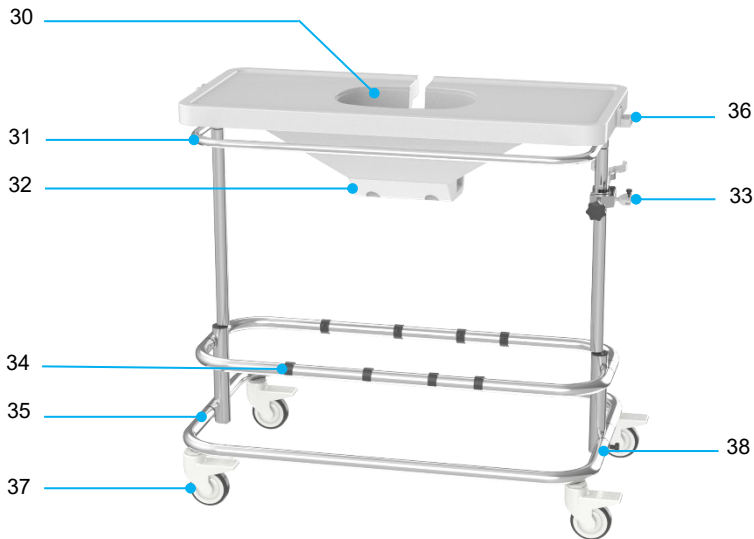

Figure 8 Trolley
The Thermo unit and the pump unit are mounted on a trolley (see Figure 8). The trolley is equipped with caster wheels with brakes and a push bar to allow for in-hospital transport.
- Set the trolley in the correct position and apply the brakes on the caster wheels (Figure 8, item 35).
- Place the kidney reservoir in the cavity of the Kidney Assist table (Figure 8, item 30).
- Place the pressure sensor in the holders at the side of the tabletop (Figure 8, item 36).
- Place the oxygenator in the holder of the trolley (Figure 8, item 37) by pressing them into the clamp, see (Figure 10).